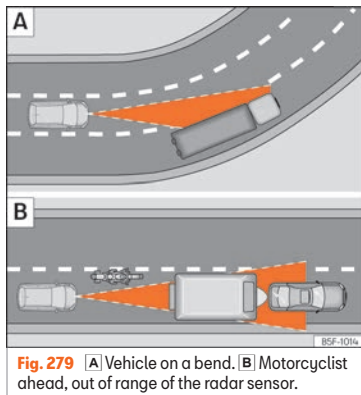

Fig. 279 [A] Vehicle on a bend. [B] Motorcyclist ahead, out of range of the radar sensor.
When entering or leaving some curves, the radar sensor may cease to sense the vehicle driving in front of it, or react to a vehicle in the adjacent lane »» Fig. 279 [A]. The vehicle may brake unnecessarily or stop reacting to the vehicle in front. In this case, the driver has to intervene by accelerating or interrupting braking by applying the brake or pushing the third lever to position **CANCEL** »» Fig. 276 ③.
The radar sensor can only detect narrow vehicles or vehicles that circulate out of alignment when they enter its range »» Fig. 279 [B]. In these cases, you should brake as necessary.